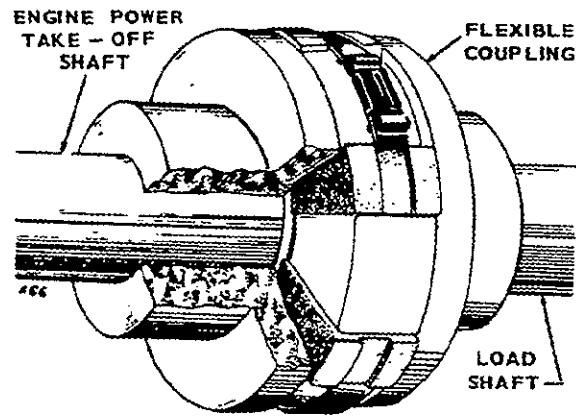

FIGURE 5. FLEXIBLE COUPLING
1. Engine priming before starting is shown in Figure 5 (manual start only).
**Flexible Coupling:** If a flexible coupling engine-to-load drive is used, the load shaft must be in line and centered with the engine shaft (Figure 5).